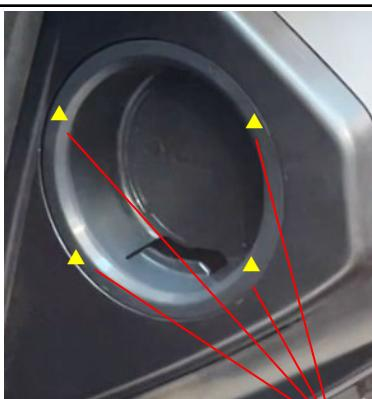

Fig. 2-3
- Check that the four hooks are fit (Fig.2-3).